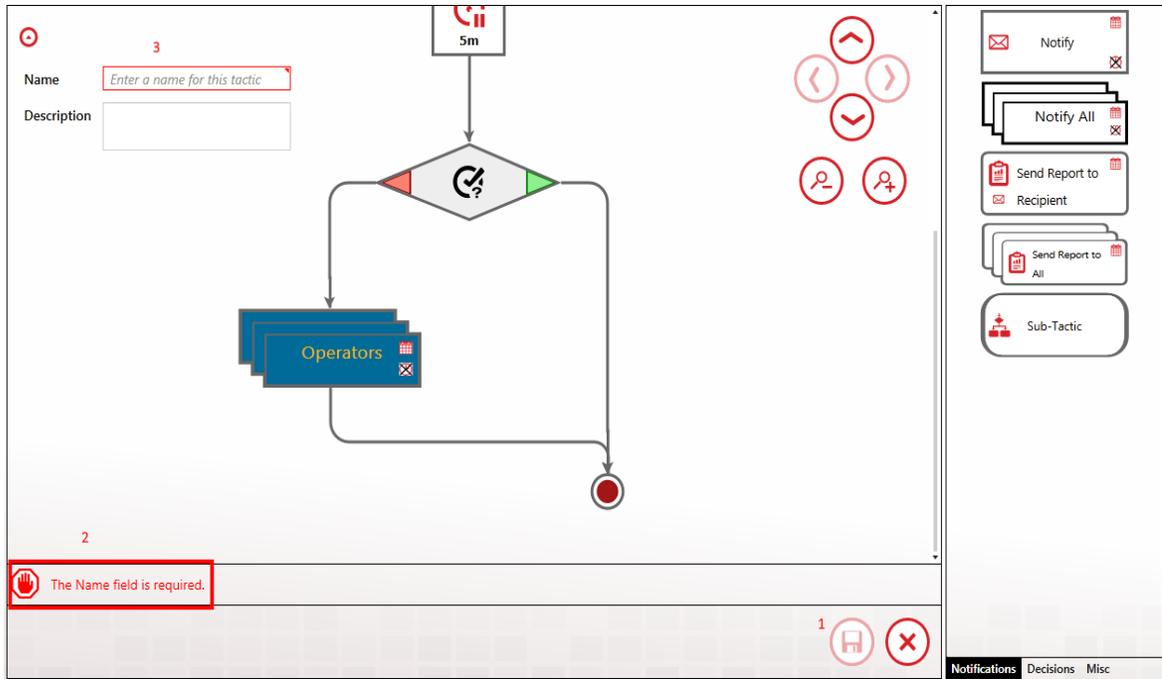

Figure 17: Tactic Complete
The advanced tactic is now complete and ready to be saved (Figure 17), however, the button is disabled (1). The configuration information bar at the lower left (2) states that the tactic must be given a name before it can be saved. Enter a unique name in the Name field (3) and the save button will be enabled, allowing you to save the tactic for use in a strategy.